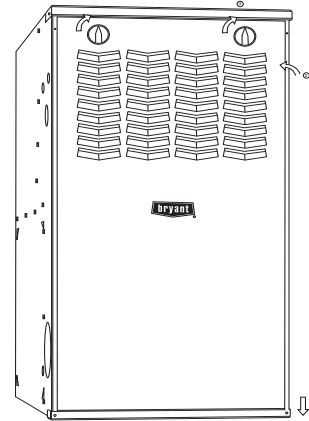

Fig. 9 – Furnace Door Replaced
8. Replace the outer door and tighten the thumbscrew, see Fig. 9.
6. Replace the outer furnace door, see Fig. 9.